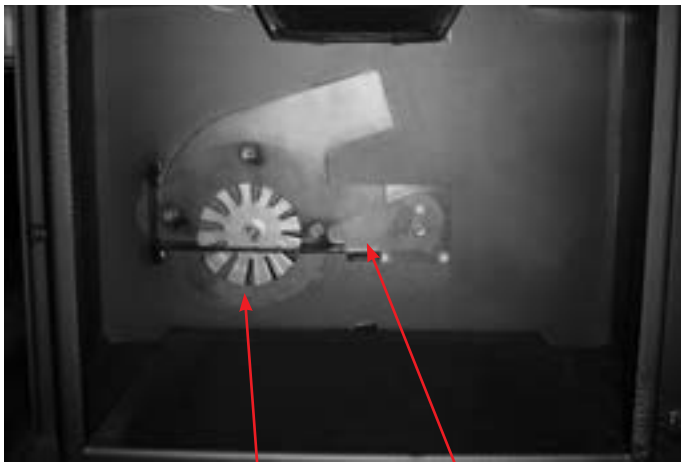
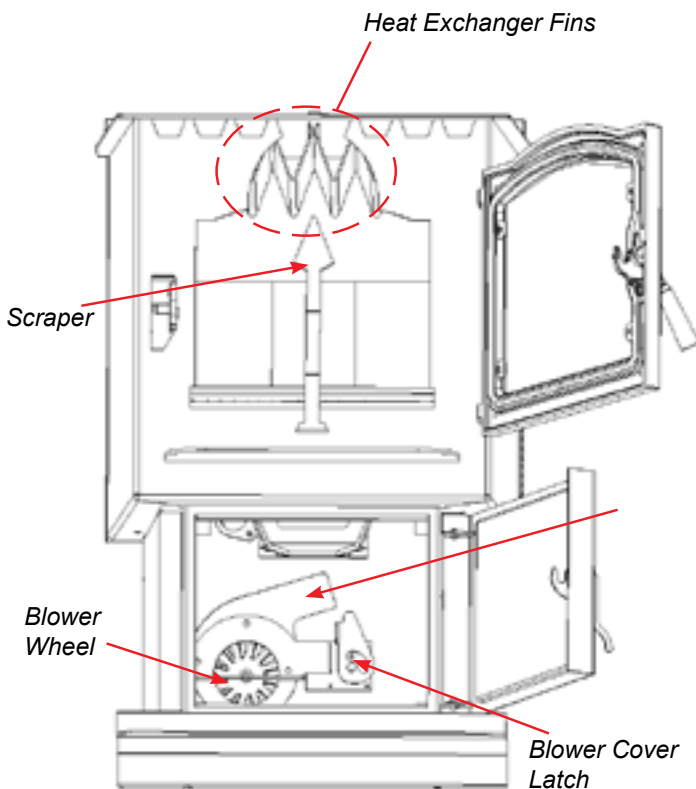

Fig 26
Fig 27
2. Clean heat exchanger with scraper as shown in fig 27.
7. Remove combustion blower cover by turning the blower cover latch vertical, see Fig.26. Sliding the cover out of the slot on the left. This will expose the combustion blower wheel and flue outlet, Fig.27.
9. Use a brush to clean the flue, being careful not to damage the ESP probe, see Fig. 30. The flue goes straight through into the vent pipe (Fig.27) therefore, the vent pipe can also be cleaned, to some extent, through the flue outlet.